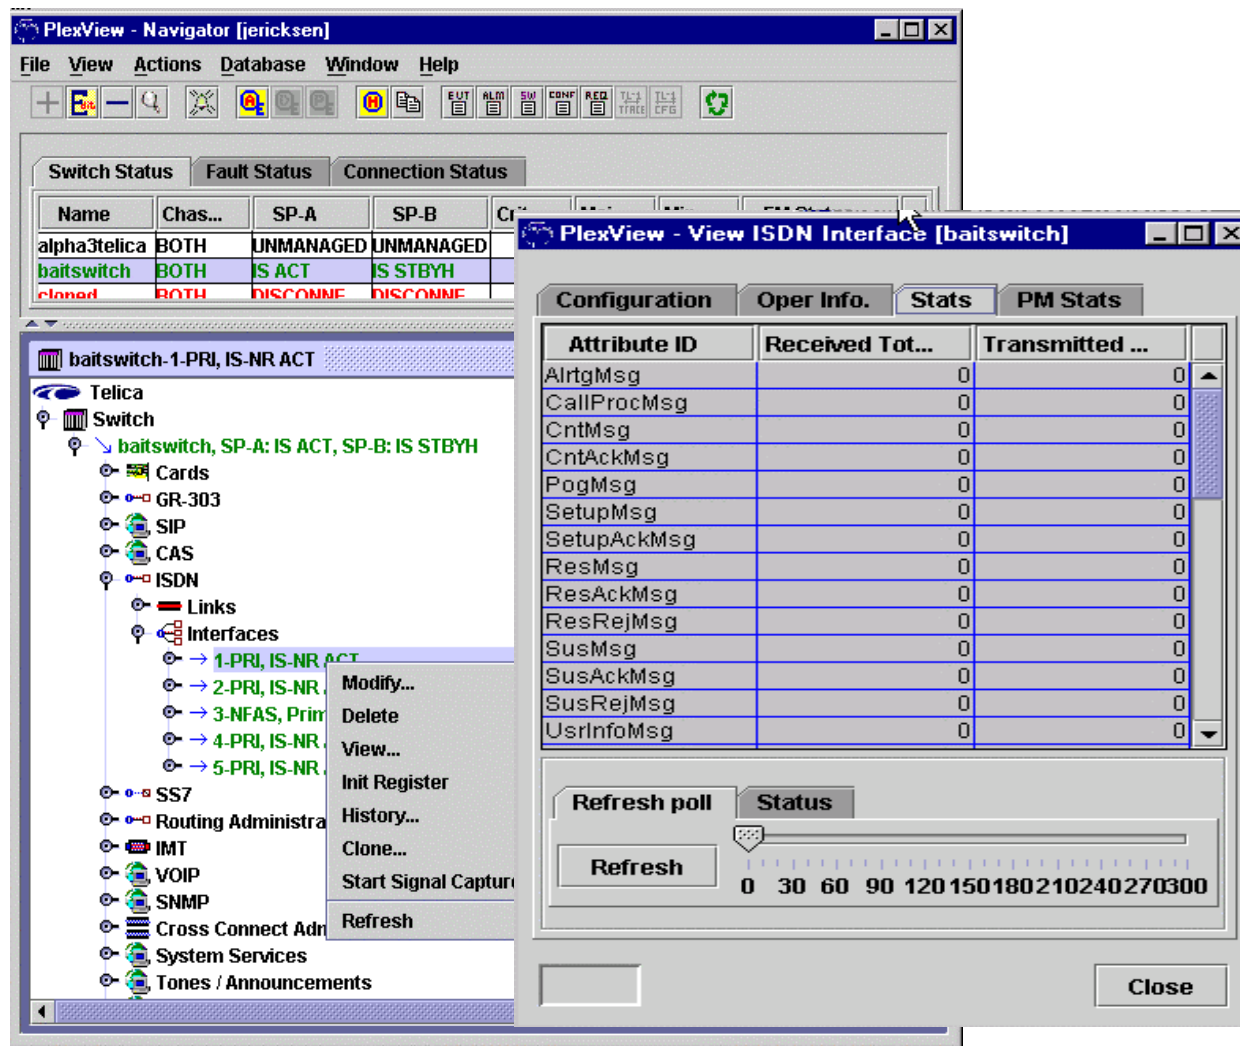

Figure 1. ISDN Interface
2. Double-click the switch name in the switch status panel to select it for the main panel. Double-click *ISDN* and then *Interfaces*. Right-click an interface and select *View, Stats* and then click *Refresh* near the bottom of the panel for latest information. See Figure 1.